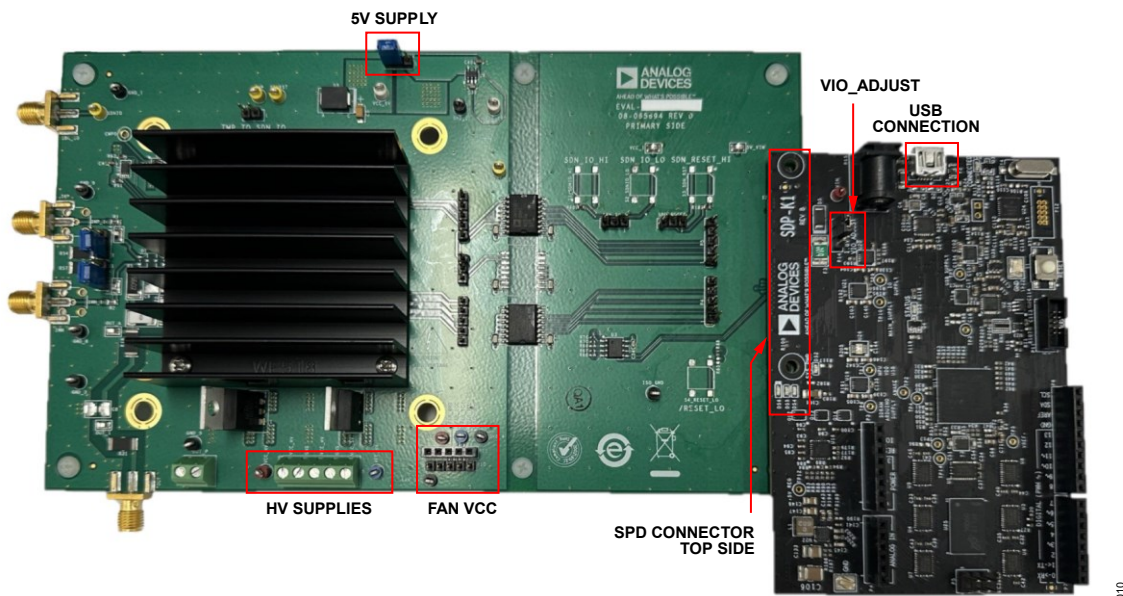

Figure 10. ADHV4710 and SDP Board Connected to P6 on the Secondary Side
15. Mate the SDP-K1 board to EVAL-ADHV4710SDZ using P6 and the 120-pin connector at the primary side of the evaluation board. For a more secure connection, screw the boards together through the connector's mounting holes. See Figure 10.
17. Change the digital logic level of the SDP-K1 from 1.8V to 3.3V by moving the shunt located at VIO_Adjust, as shown in Figure 10.